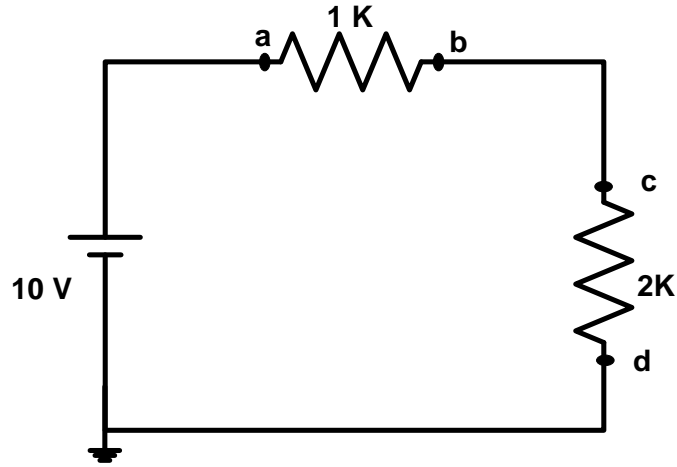

Figure 6: Circuit schematic to perform the 2nd step of the experimental procedure
- Construct the following circuit (Figure 6). Theoretically calculate R_T (total resistance), I (total Current), V_{ab} , V_{cd} , V_a and V_b . Again calculate the same quantities using the multimeter and complete the table (Table 3) provided below.